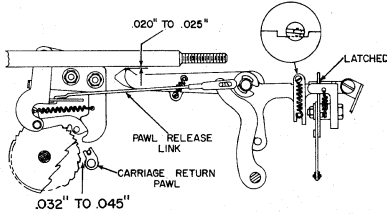

Figure 45
20. Loosen the mounting nut for the small eccentric stud on the tab operating lever and adjust the eccentric stud so that the right end of the tab lever is positioned under the tab rack with .020" to .025" clearance from the tip of the tab lever to the underside of the tab rack with the power off and the tab manually latched (Figure 45). Tighten
20. Loosen the mounting nut for the small eccentric stud on the tab operating lever and adjust the eccentric stud so that the right end of the tab lever is positioned under the tab rack with .020" to .030" clearance from the tip of the tab lever to the underside of the tab rack with the power off and the tab manually latched (Figure 45). Tighten the mounting nut without changing the setting of the eccentric stud.